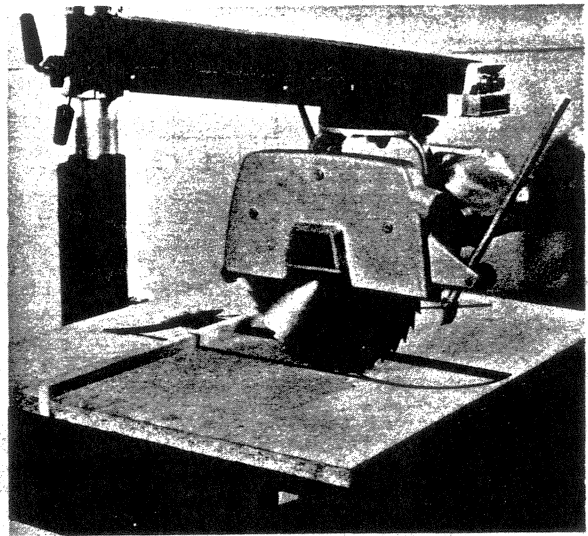

FIGURE 1
- (d) Lower the arm (saw still running) $\frac{1}{4}$ turn. Pull the saw forward to the end of the arm with your *left hand*. This will cut a groove in the table top $\frac{1}{32}$ " deep. Tighten Rip Lock. (Refer to figure 1)
- (g) Return saw to position shown in figure 1. Lock Rip Lock and start motor. Release yoke clamp handle and locator pin and rotate yoke counterclockwise to the outtrip position. This cuts the swing line for outtripping. Loosen rip lock.
- (i) Return saw to position shown in figure 1 and move to the rear position behind the fence.